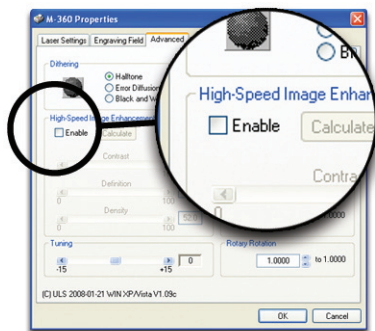

Figure 1
2. Disable Image Enhancements in the “Advanced Tab” of the Driver - *Figure 1*.